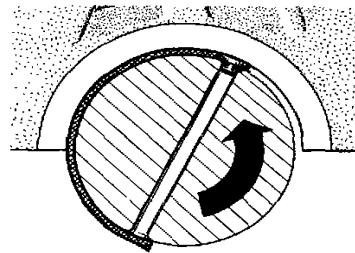

Fig. 88. Removing the upper bearing shell
4. Turn the crankshaft until its oil hole is exposed. Place a pin in this hole, the pin having such dimensions that when the crankshaft is rotated it takes with it the upper shell, see fig. 88. **Note!** The engine is turned over in its normal direction of rotation when bearing shells are being rolled out.